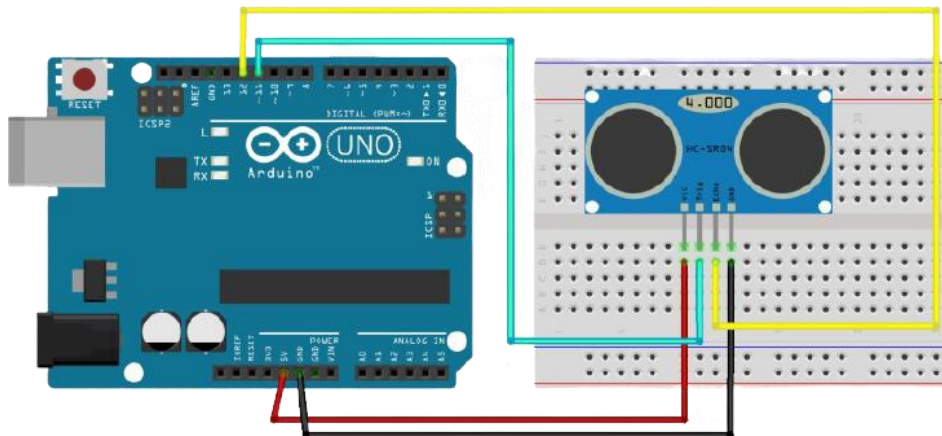

Figure 02: Circuit diagram
5. Create the circuit as figure 02.